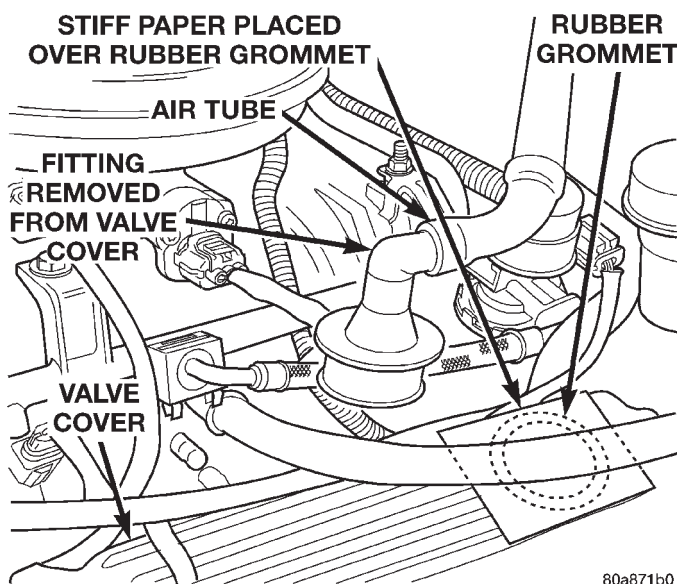

Fig. 12 Vacuum Check at Valve Cover Opening
(2) Return the PCV valve into the valve cover. Remove the fitting and air hose at the opposite valve cover. Loosely hold a piece of stiff paper, such as a parts tag, over the opening (rubber grommet) at the valve cover (Fig. 12).
(3) The paper should be drawn against the opening in the valve cover with noticeable force. This will be